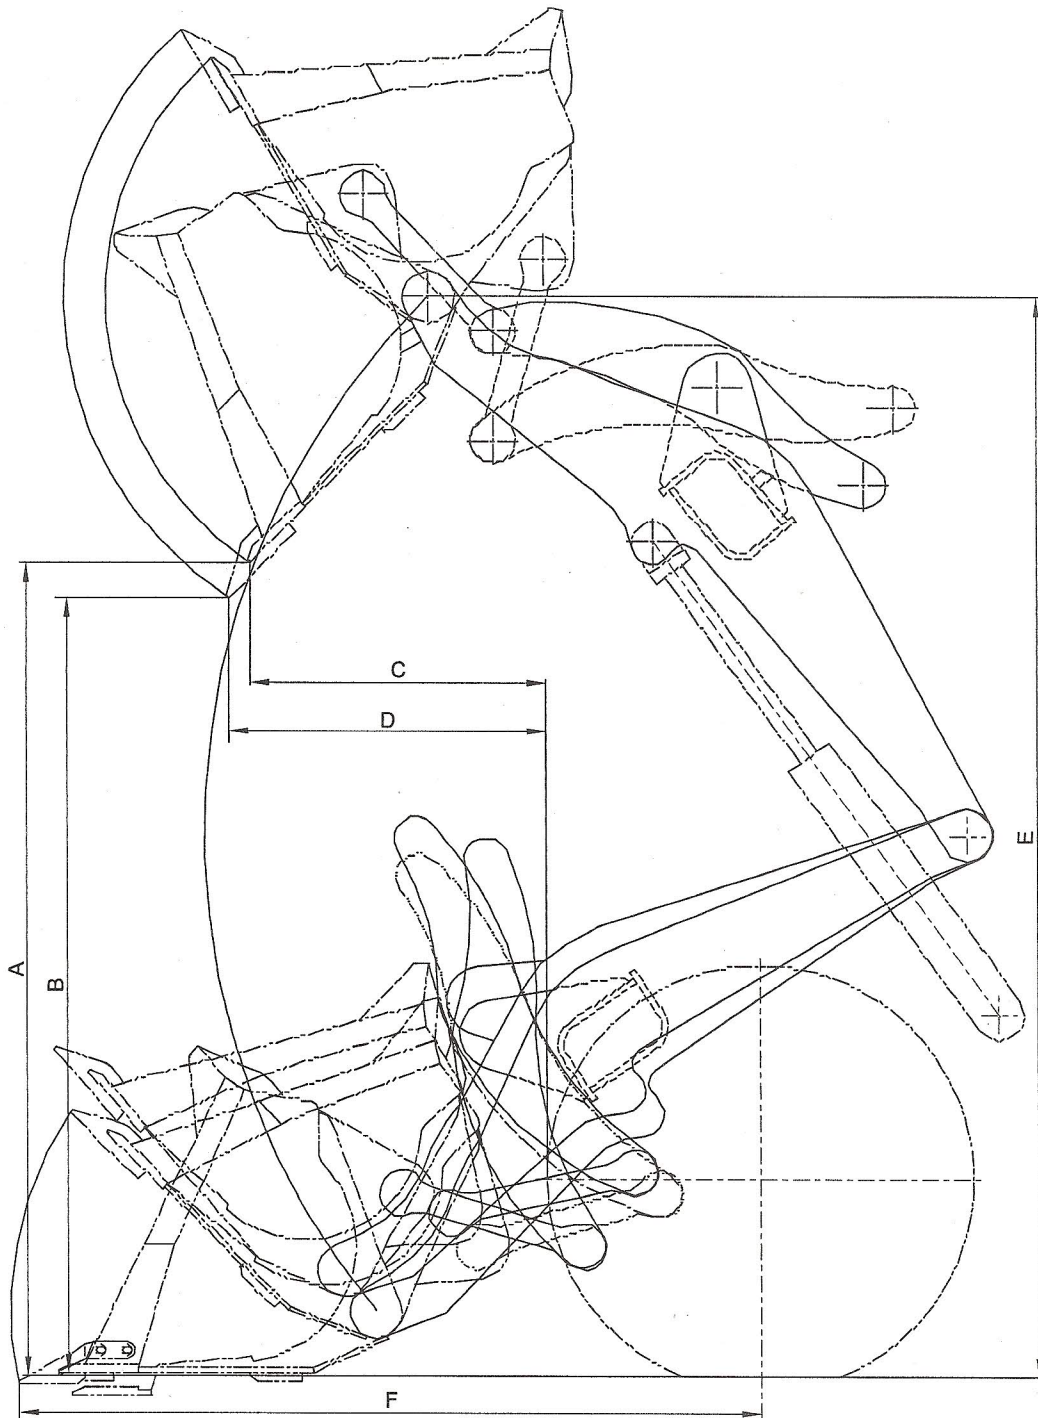

Fig. 08-01
8.1 Working Range (Fig. 08-01)